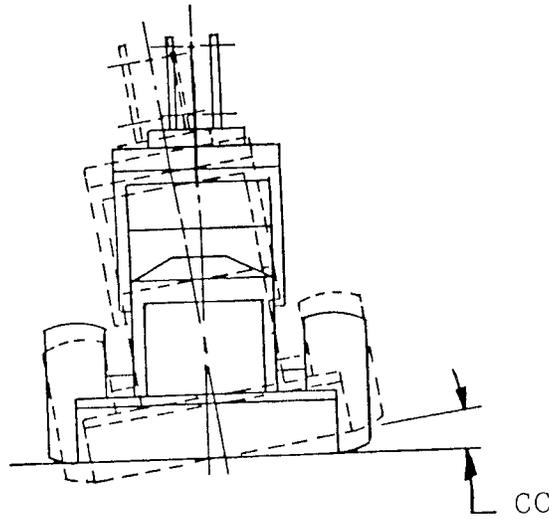

FIGURE 5—FRAME OSCILLATION
**4.32 Frame Oscillation (CC)**—The angle in degrees that one frame will rotate from a horizontal datum, in both directions, without rotating the other frame. (Figure 5)